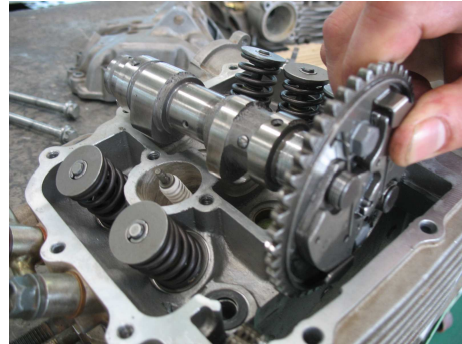

Figure 2-27-2
③remove valve chain wheel Figure 2-27-2